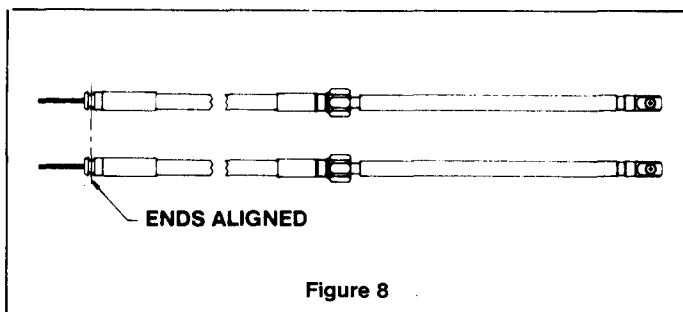

Figure 8
**STEP 2.** Push both the output rams of the cables to the fully retracted position. Make sure that they stay fully retracted during installation into the helm. Remove the protective sleeves from Steering Cables, make sure that dirt does not get onto the lubricated cable ends. Hold both the cables together at the helm end with the faces of the conduit fittings flush, as shown in Figure 8.
**STEP 1.** Push both the output rams of the cables to the fully retracted position. Make sure that they stay fully retracted during installation into the helm. Remove the protective sleeves from the Steering Cables, make sure that dirt does not get onto the lubricated cable ends. Hold both the cables together at the helm end with the faces of the conduit fittings flush, as shown in Figure 8.
**STEP 5.** Feed the Spent Travel Tubes (item 2) over the exposed cable ends and thread the Retaining Nuts onto spigots. Tighten nuts hand tight.